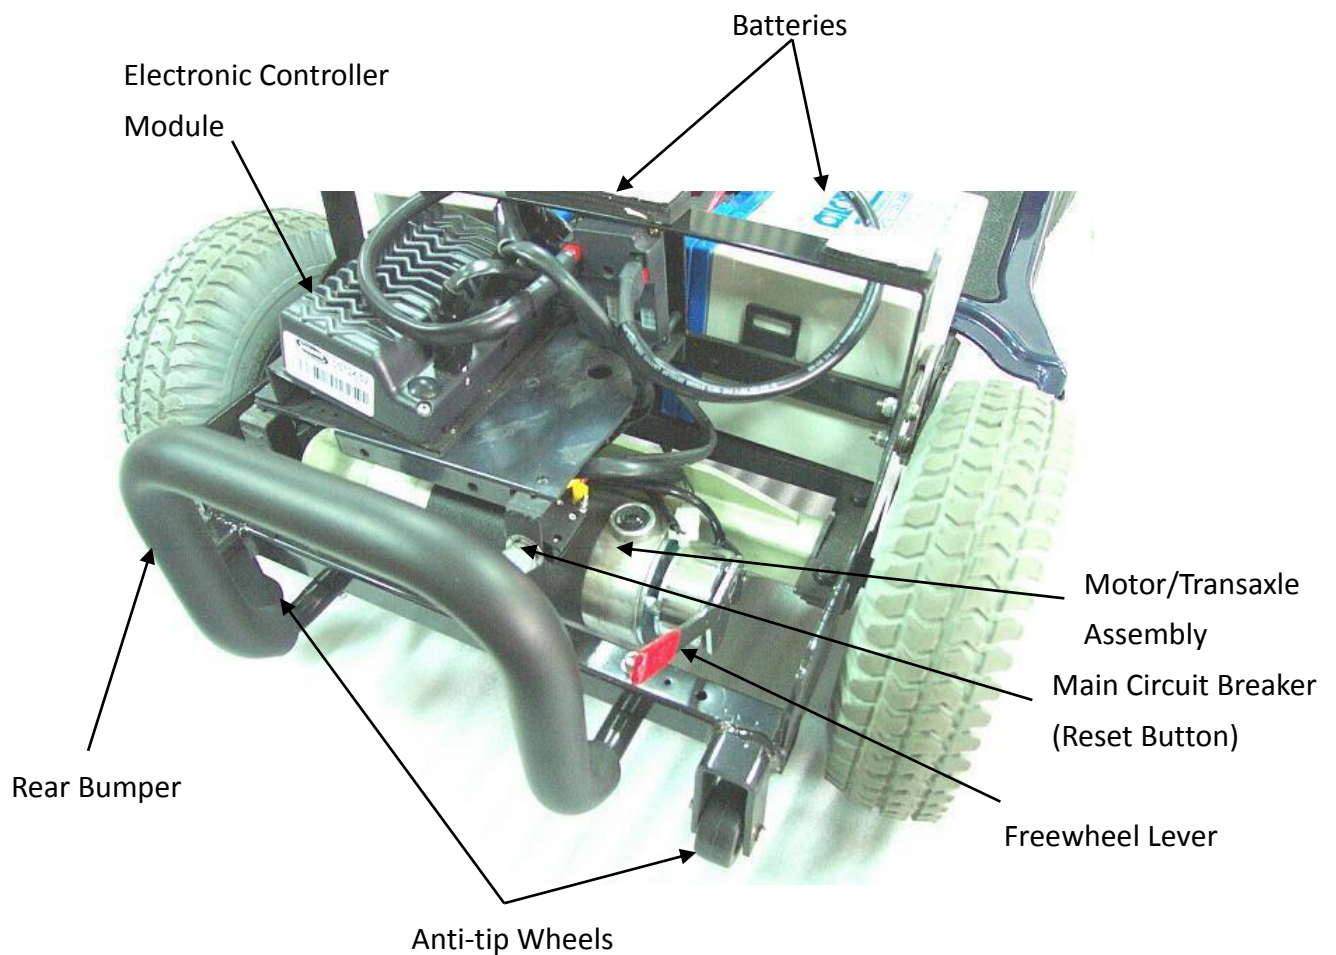

Figure 7. Rear Section
The batteries, the electronic controller module, the main circuit breaker (reset button), the manual freewheel lever, and the motor/transaxle assemblies are located on the rear section of the scooter. See figure 7.
- The main circuit breaker is mounted on the rear section of the scooter. See figure 7.
- The manual freewheel lever is located on the offside rear of the scooter. See figure 7.
The motor/transaxle assembly consists of a geared transmission and differential. This one piece, direct drive, fully sealed assembly, provides quiet operation with maximum power and long life. See figure 7.
See figure 7.